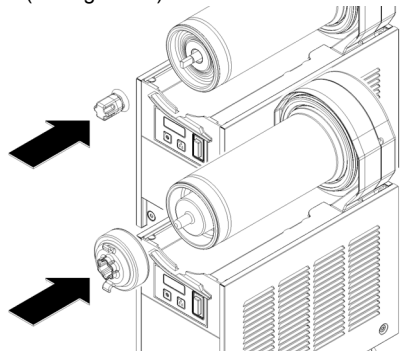

figure 11
- 5 Insert the magnetic outside rotor in the evaporator taking care to accompany it to the end (see figure 11).